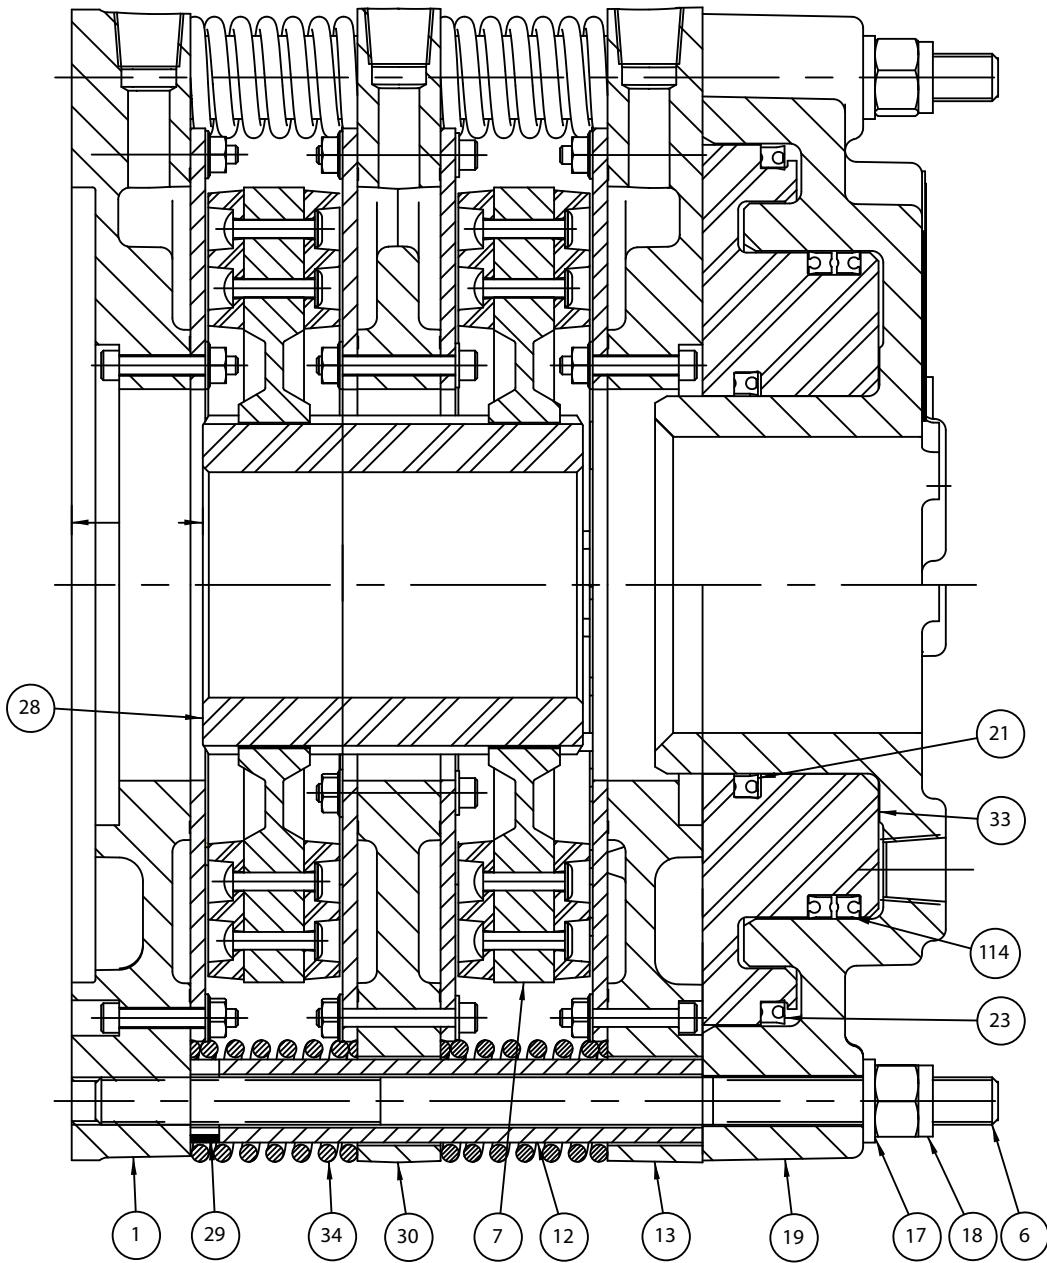

Figure 1
- 1.2.1 Referring to Figure 1, the operation of the Airflex WCBDEP is identical to that of the Airflex WCB2EP with the exception of the dual chambered piston/cylinder power head assembly. In the WCBDEP brake, air pressure is applied to either the inner, outer, or both sets of the ports in the dual cylinder (19), causing the dual piston (33) and pressure plate assembly (13) to move towards the mounting flange, compressing the release springs. As the applied pressure to either, or both of pressure chambers increases, the friction disc(s) are clamped between the pressure plate and mounting flange, stopping or controlling the shaft that the discs are mounted upon. Modulation of air pressure then controls applied torque of the tensioner. The inner cylinder/piston chamber area of the power head is referred to as the small cylinder/piston, and the outer cylinder/piston chamber area is referred to as the large cylinder/piston.
Note: Some assemblies might have used a one piece bidirectional seals. These have been superceded by the use of TWO seals that fit back to back, as shown in Figures 1 and 2.
- 4.1.10 Install the new seals in the grooves in the piston, noting the proper orientation of the seal lips. For locations where two seals are installed back to back, the O-ring expander in each seal should face away from the second seal. See Figures 1 and 2.